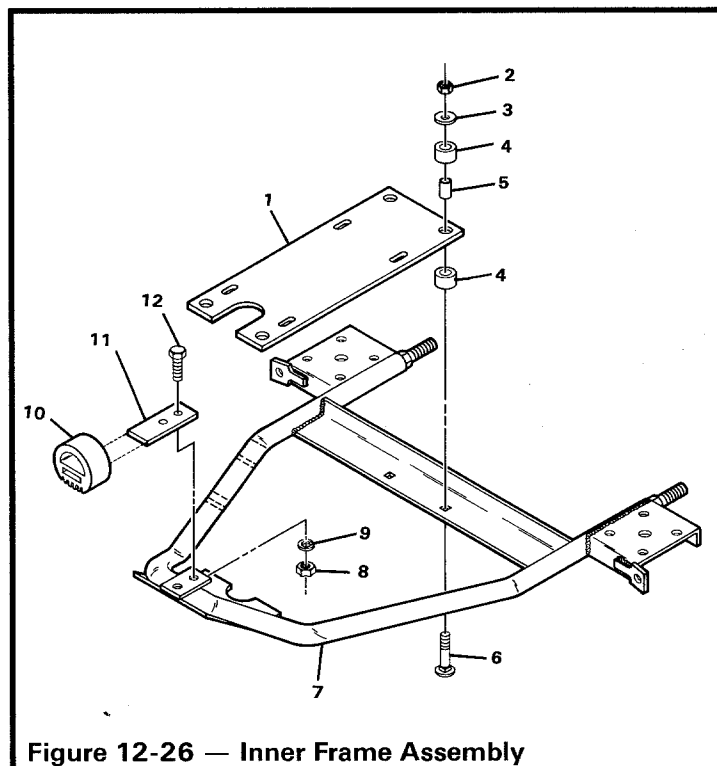

Figure 12-26 — Inner Frame Assembly
1. Remove nuts (8), lockwashers (9) and bolts (12) from front of engine inner frame assembly (Figure 12-26).
2. Remove plate (11) and rubber snubber (10). Replace snubber.